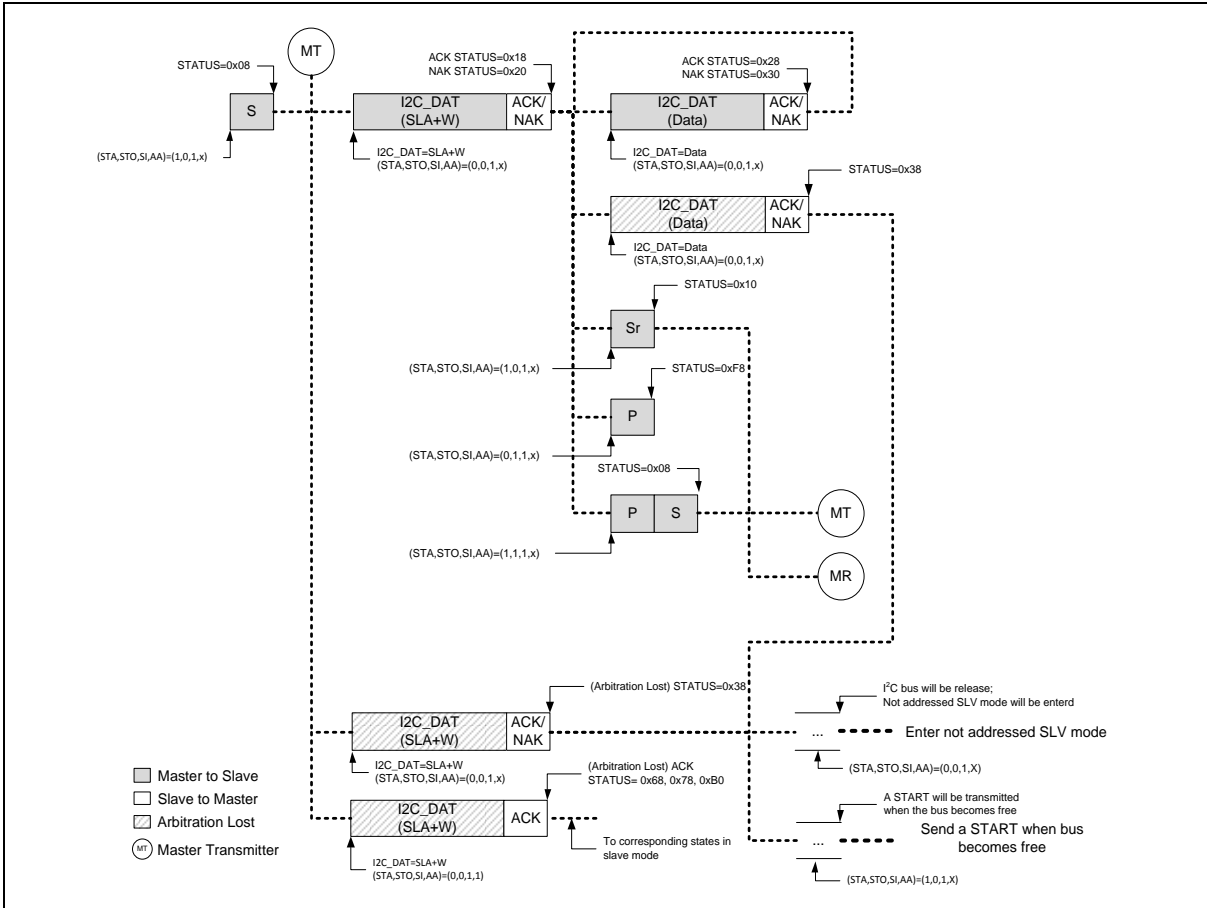
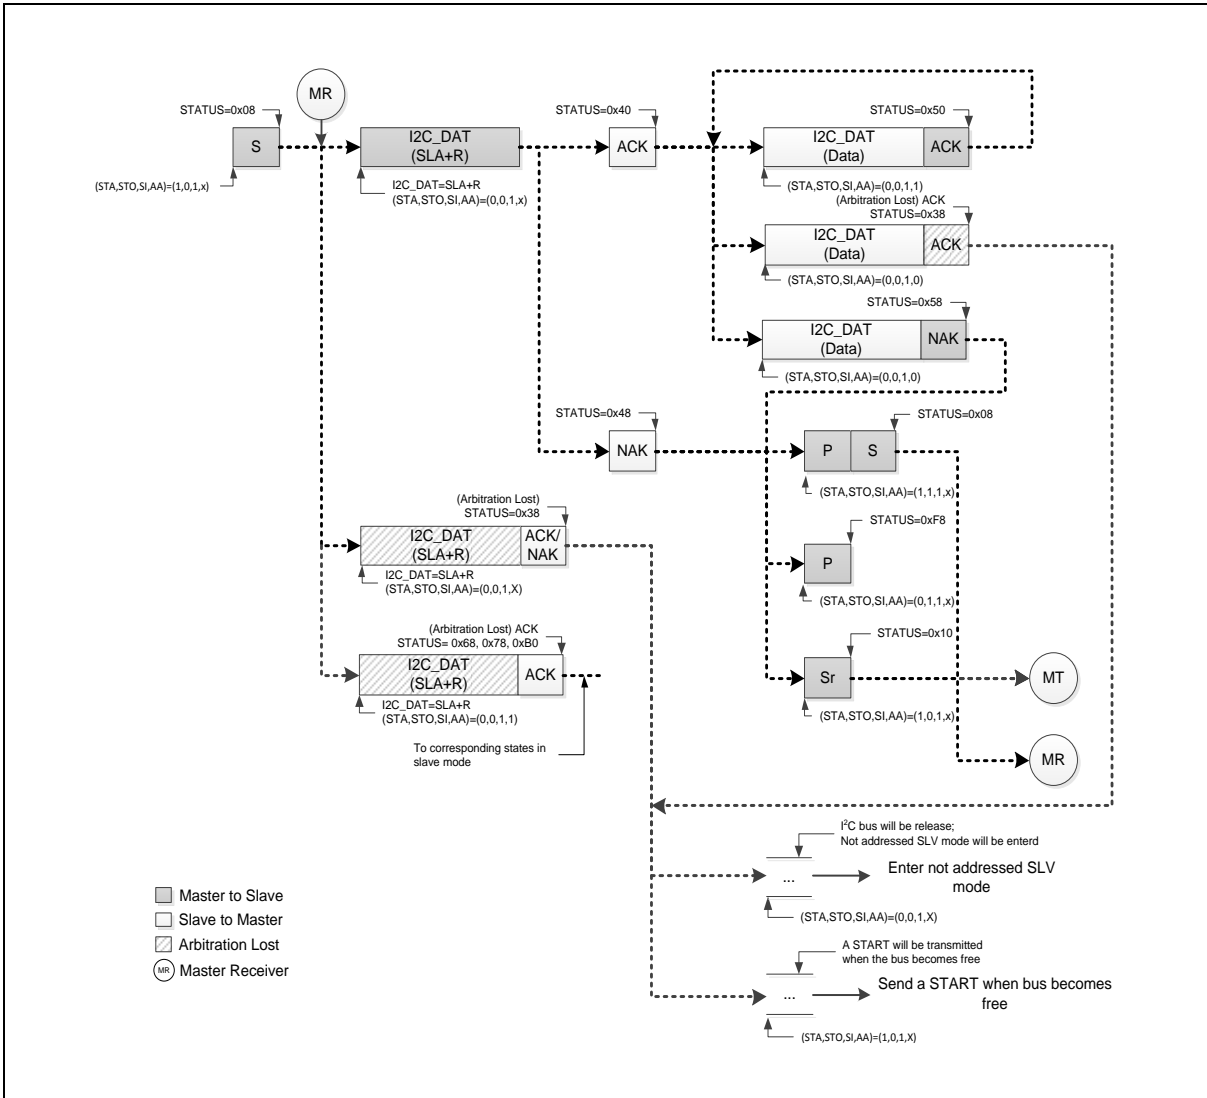

Figure 6.23-12 Master Transmitter Mode Control Flow
Figure 6.23-13 Master Receiver Mode Control Flow
In Figure 6.23-12 and Figure 6.23-13, all possible protocols for I2C master are shown. User needs to follow proper path of the flow to implement required I2C protocol.
In other words, user can send a START signal to bus and I2C will be in Master Transmitter (MT) mode (Figure 6.23-12) or Master receiver (MR) mode (Figure 6.23-13) after START signal has been sent successfully and new status code would be 0x08. Followed by START signal, user can send slave address, read/write bit, data and Repeat START, STOP to perform I2C protocol.